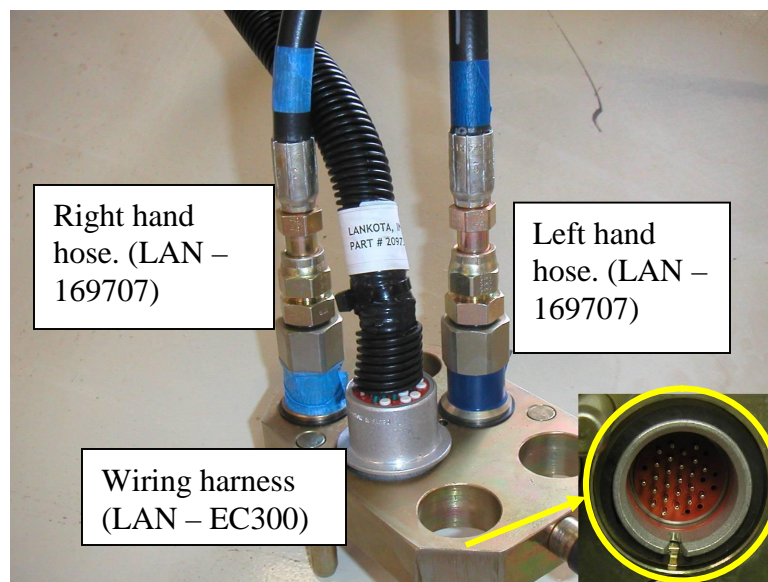

Figure 13
2. Install left-hand hose extension (**LAN – 169707**) onto Multi-Coupler (**LAN – 166993**) at connector with dark blue locator. (See **Figure 13**)
3. Install right-hand Hose Extension (**LAN – 169707**) onto Multi-Coupler (**LAN – 166993**) at connector with light blue locator. (See **Figure 13**)
4. Install electrical harness connector into multi-coupler and retain with Snap Ring (***LAN-175880**). (See **Figure 13**)